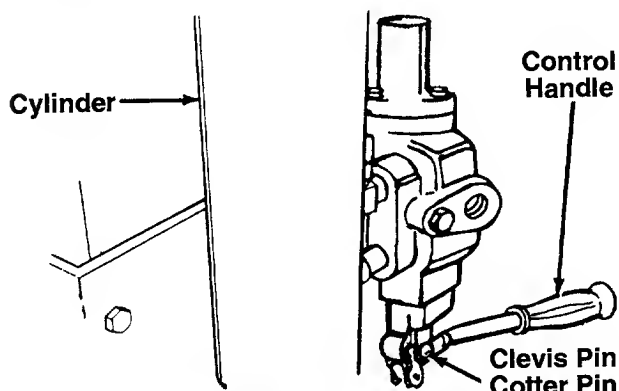

FIGURE 8.
2. The bottom of the control handle is already attached to the valve. Remove the cotter pin and clevis pin which are attached to the valve. Place the handle in position, and secure to the valve using the cotter pin and clevis pin. See figure 8.